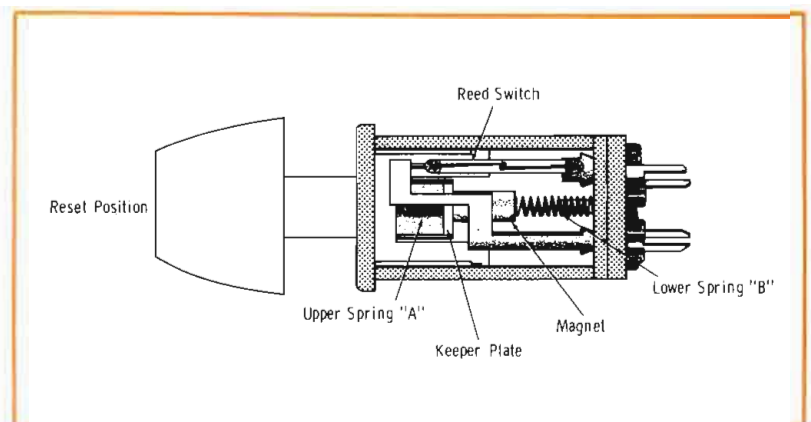

Fig. 1 (B) Typical magnetic reed switch from a Cherry Electrical Prod. keyboard.
Fig. 1 (A) Many keyboard switchbanks are an integral unit and are mounted inside the equipment panel, with only the keyheads projecting. Switches are easy to replace after freeing the keyboard from the panel.